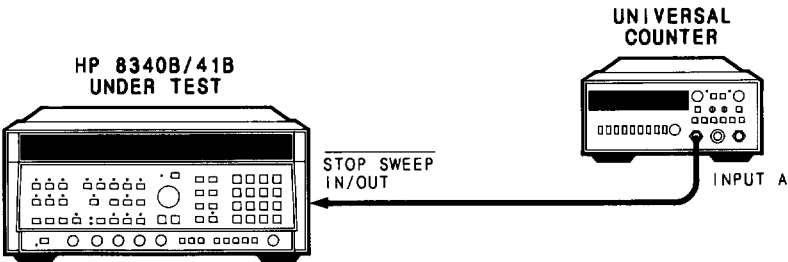

Figure 4-3. Sweep Time Accuracy Test Setup
- 1. Connect equipment as shown in Figure 4-3. Switch the HP 8340B/41B POWER to ON. Allow the equipment to warm up for one hour.